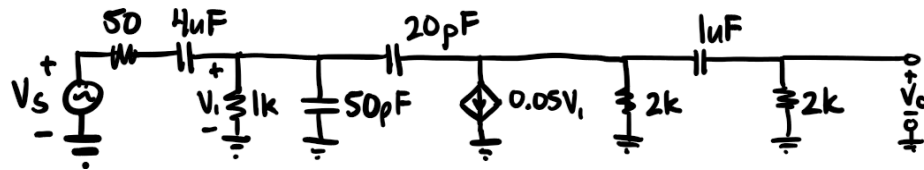

Figure 1.1 Basic Transconductance Amplifier Drawn Out
We will first find the poles/zeros of the circuit. Using Miller's theorem and the method of OC and SC time constants we can analyze Figure 1.1. Below we have Miller's equations:
Evaluating Figure 1.1 at the midband frequency, we see that our 20pF & 50pF capacitors act as open circuits, while our higher 4uF & 1uF capacitors act as short circuits.
- B. The Basic Transconductance Amplifier from Figure 1.1 imported into CircuitMaker. Point A represents V_o .